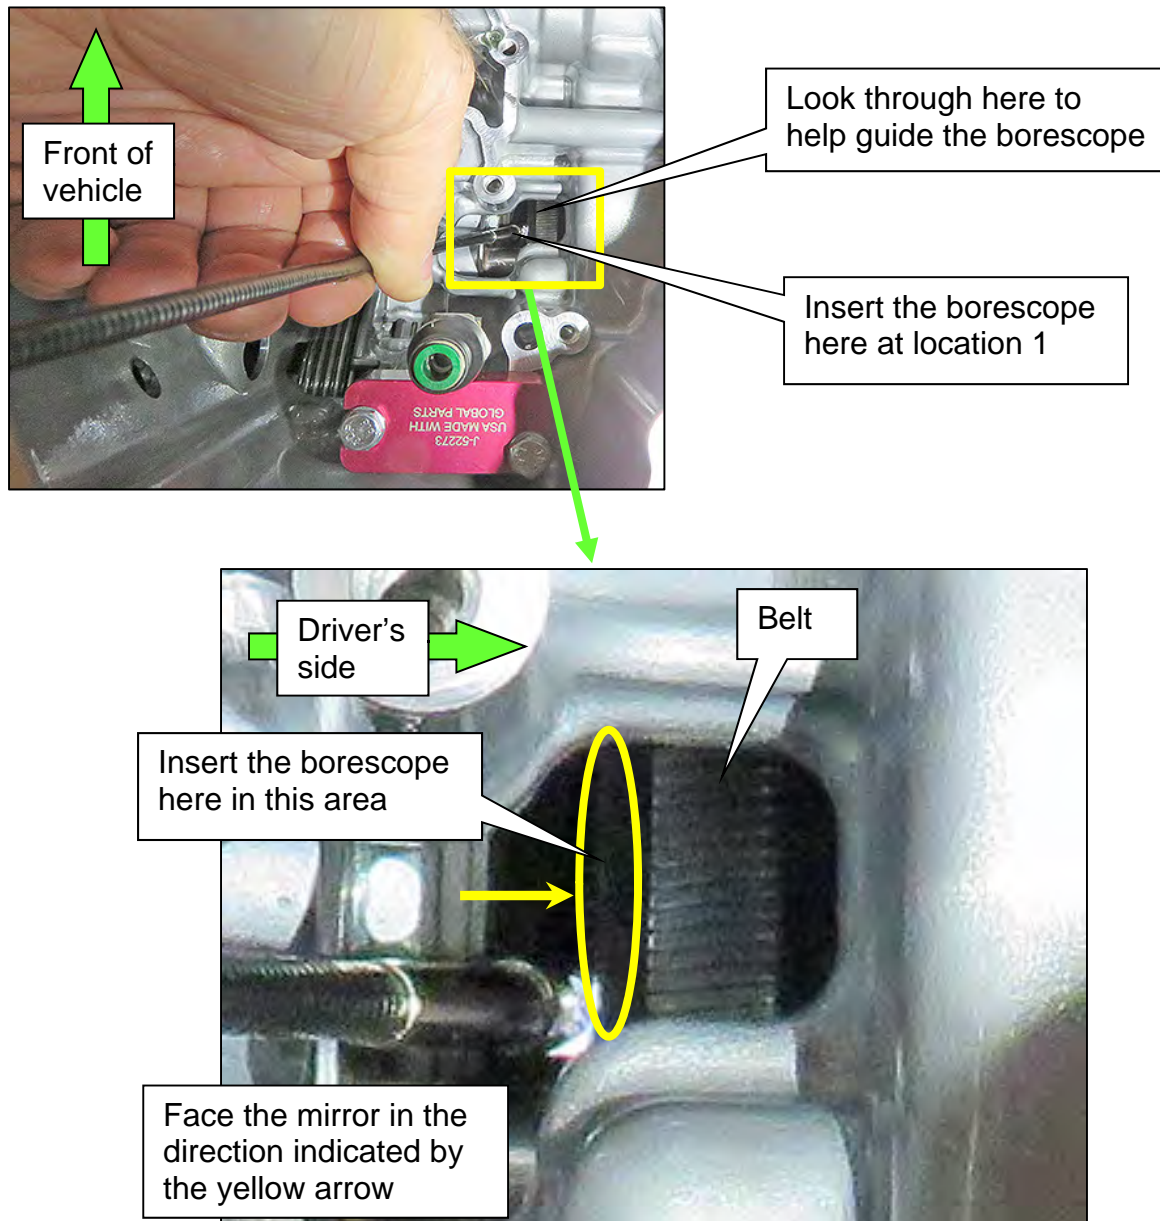

Figure 11
18. Insert the borescope where shown in Figure 11 as follows: